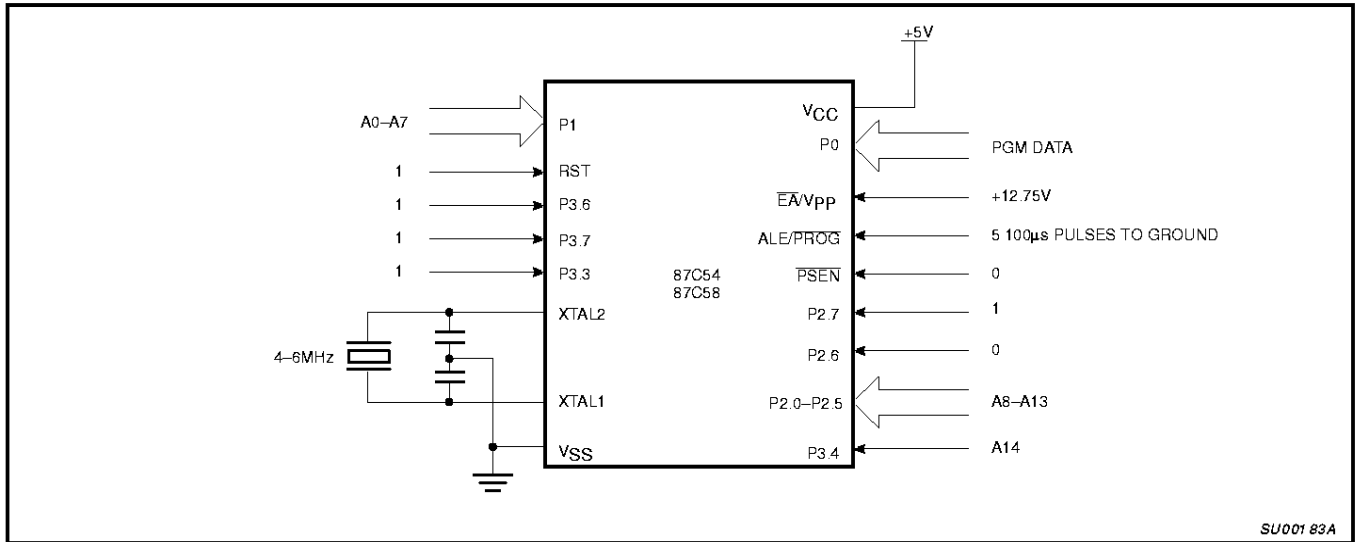
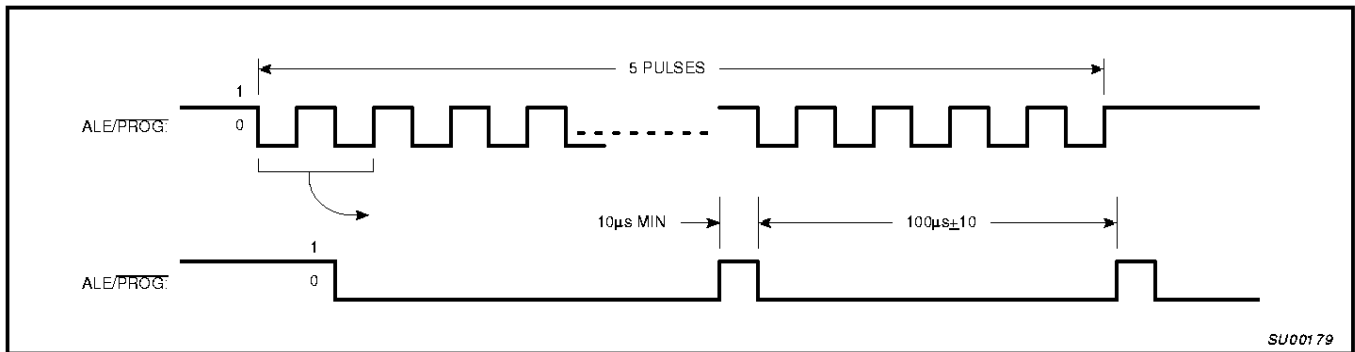
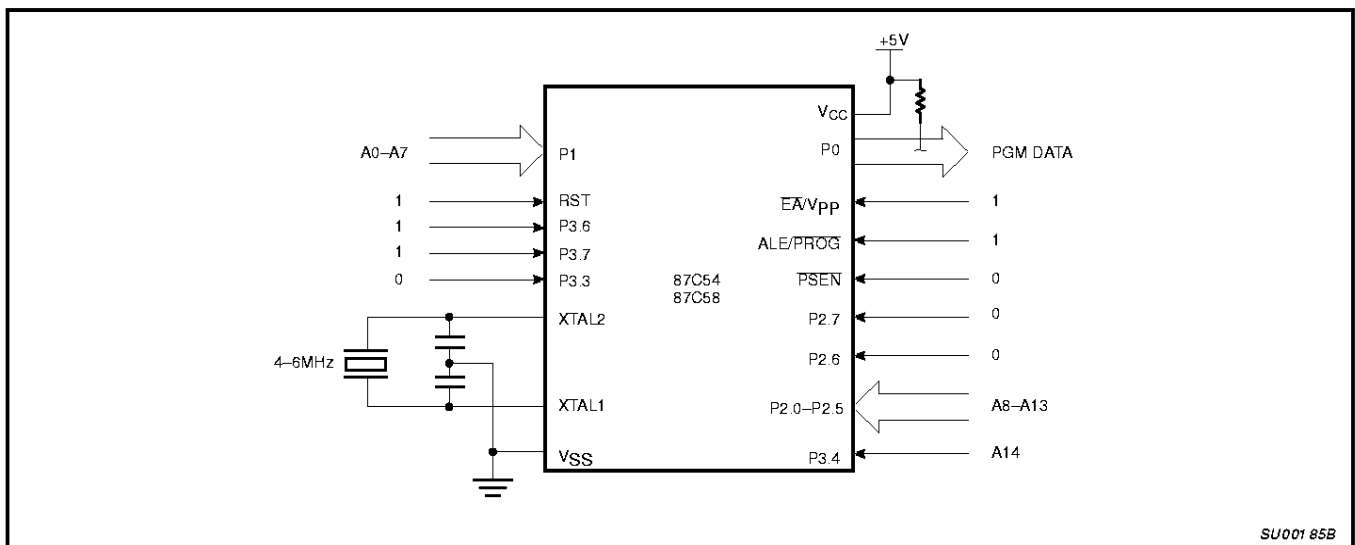

Figure 16. Programming Configuration
Figure 17. PROG Waveform
Figure 18. Program Verification
Table 4 shows the logic levels for reading the signature byte, and for programming the program memory, the encryption table, and the security bits. The circuit configuration and waveforms for quick-pulse programming are shown in Figures 16 and 17. Figure 18 shows the circuit configuration for normal program memory verification.
The setup for microcontroller quick-pulse programming is shown in Figure 16. Note that the 87C58 is running with a 4 to 6MHz oscillator. The reason the oscillator needs to be running is that the device is executing internal address and program data transfers.
The address of the EPROM location to be programmed is applied to ports 1 and 2, as shown in Figure 16. The code byte to be programmed into that location is applied to port 0. RST, PSEN and pins of ports 2 and 3 specified in Table 4 are held at the 'Program Code Data' levels indicated in Table 4. The ALE/PROG is pulsed low 5 times as shown in Figure 17.
shown in Figure 18. The other pins are held at the 'Verify Code Data' levels indicated in Table 4. The contents of the address location will be emitted on port 0. External pull-ups are required on port 0 for this operation.
* FOR PROGRAMMING VERIFICATION SEE FIGURE 16.
FOR VERIFICATION CONDITIONS SEE FIGURE 18.